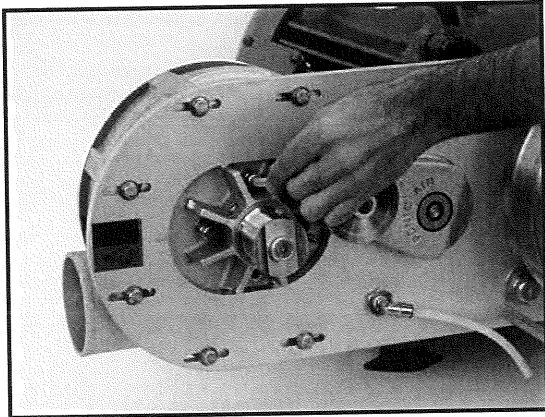

Figure 19 – Reconnect Water-Cooling Lines
7. Reinstall the water-cooling lines. (See Figure 19) (If Applicable)